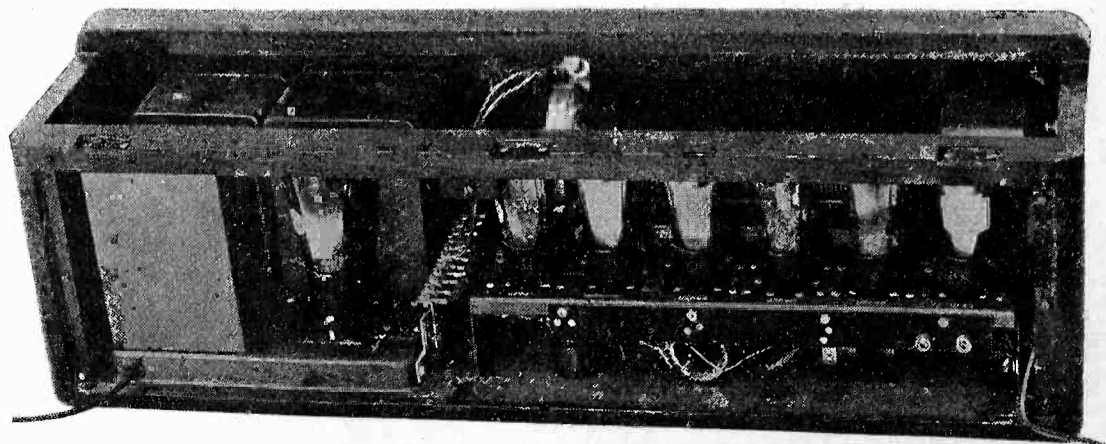
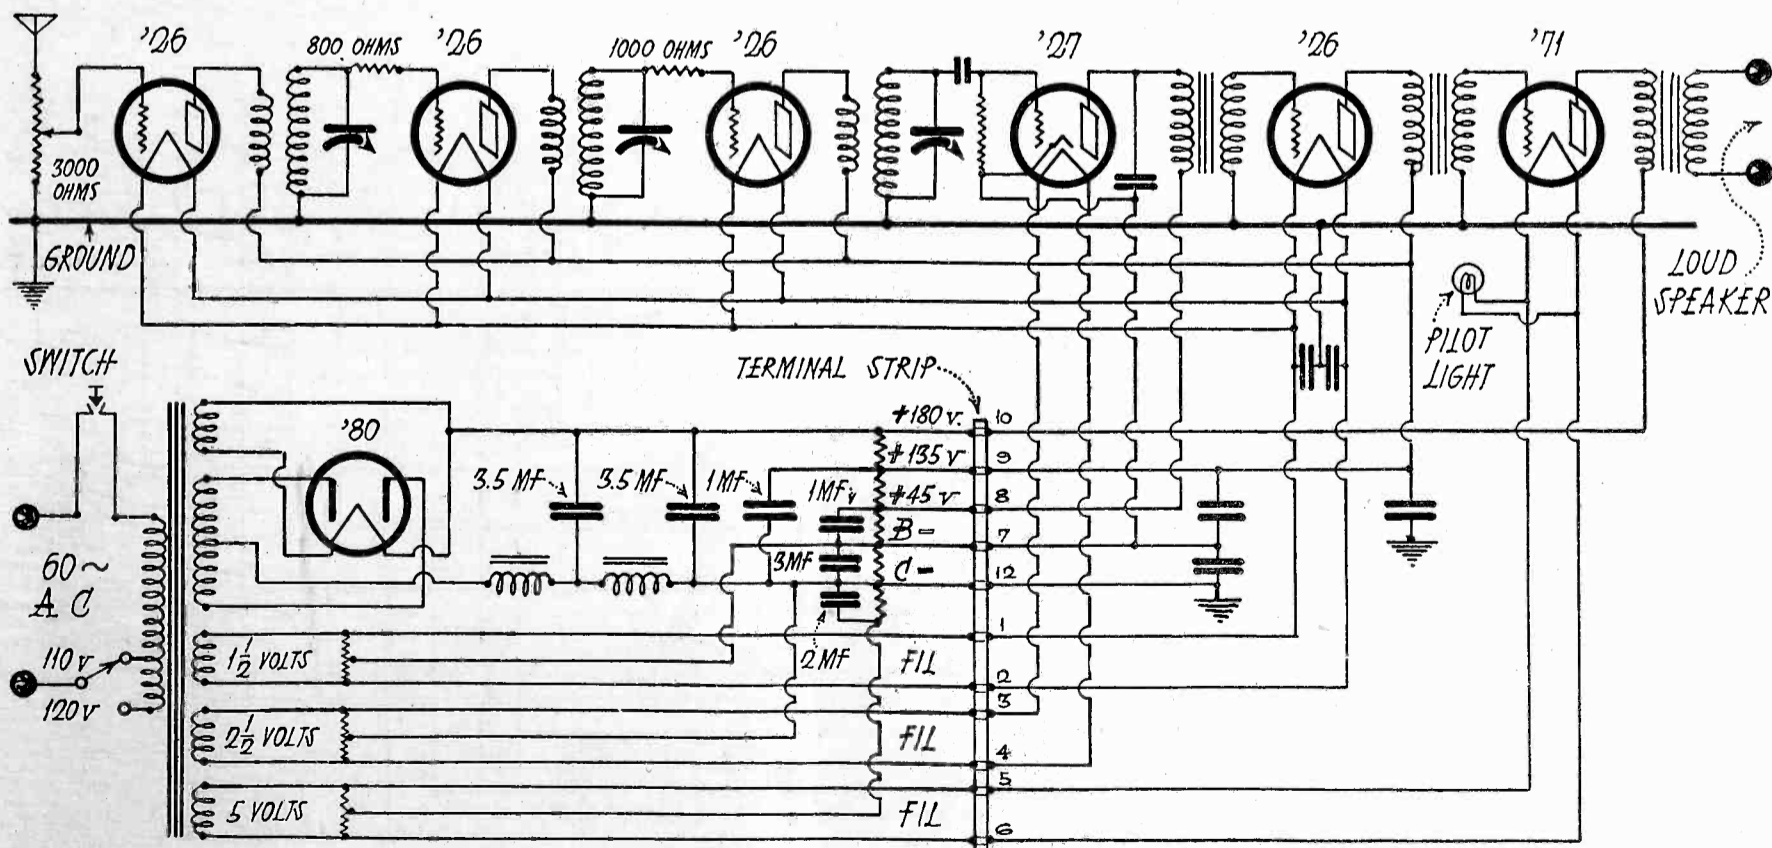

Fig. 2. Arrangement of Parts in Radiola 17.
Fig. 1. Circuit of Radiola 17.
**A**S A typical example of a six tube factory-built a.c. receiver, the diagram of the Radiola 17 is shown in Fig. 1. This receiver is of the unit type, with the equipment required to supply the proper filament, plate and C voltages mounted in the back of the cabinet housing the receiver, so that no external wiring except that of the antenna, ground and 110 volt a.c. wires is required. The arrangement of parts can readily be seen in the picture, Fig. 2.